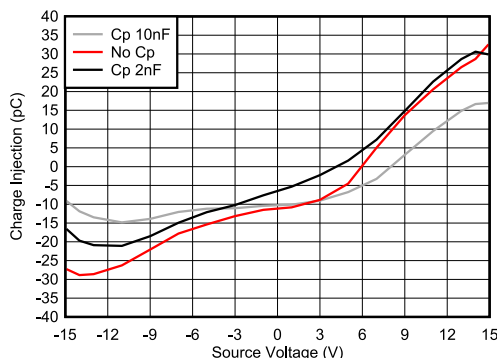

图 7-3. Charge Injection Compensation
The TMUX6219 contains specialized architecture to reduce charge injection on the source (Sx). To further reduce charge injection in a sensitive application, a compensation capacitor (Cp) can be added on the drain (D). This will ensure that excess charge from the switch transition will be pushed into the compensation capacitor on the drain (D) instead of the source (Sx). As a general rule, Cp should be 20× larger than the equivalent load capacitance on the source (Sx). 图 7-3 shows charge injection variation with source voltage with different compensation capacitors on the Drain side.